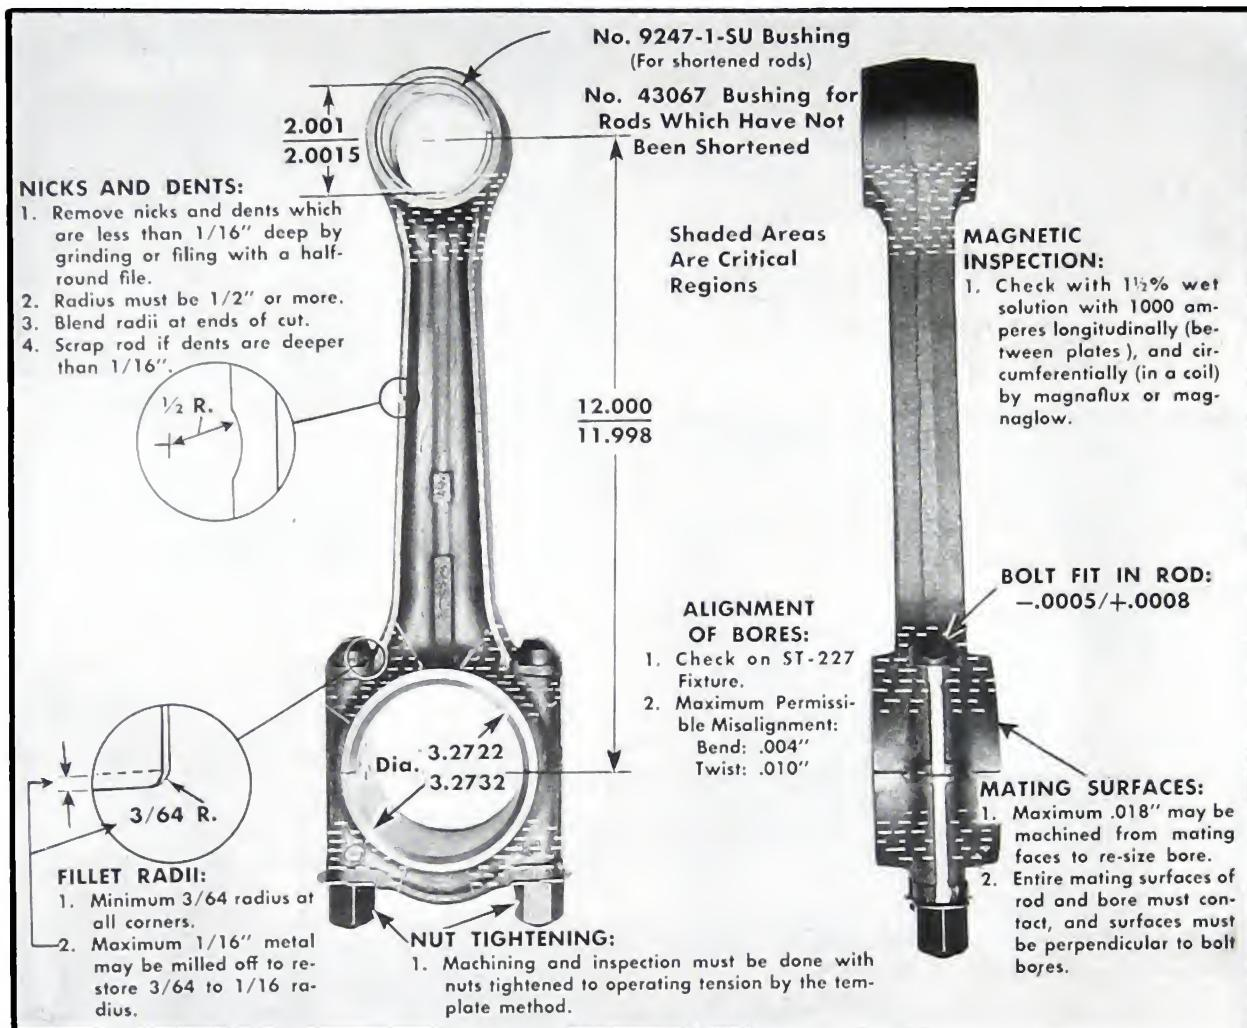

Fig. 2-35. Connecting rod specifications
2. If the fillets have been removed by filing, they can be restored by milling off an additional $1/16"$ maximum metal to restore the fillet as shown in Fig. 2-35.
3. Sharp nicks or dents can contribute to rod breakage. Remove dents which are less than $1/16"$ deep by grinding with a one-half inch radius wheel or by filing with a half-round file. See sketch, Fig. 2-35.